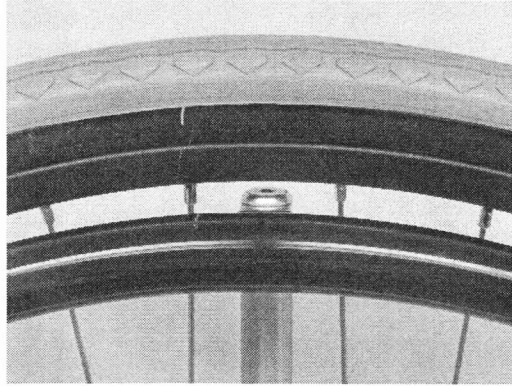

Figure 5 - Topmost Push Rim Assembly Arm properly centered between spokes
7. Position the topmost Push Rim Assembly Arm so that it is exactly in the middle of the parallel Wheel Spokes, as shown in **Figure 5**, and tighten one of the socket head cap screws.